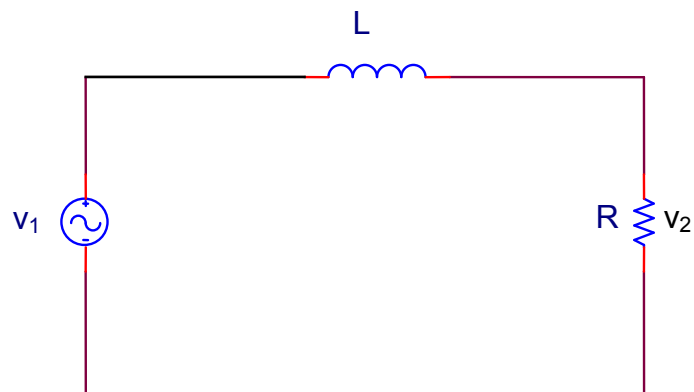

Figure 10.4
3. Repeat part 1 for the circuit of Figure 10.4.